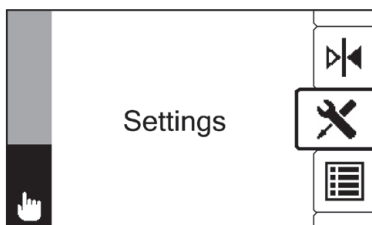

Fig. 26: Settings
2. Select **Settings** (fig. 26).